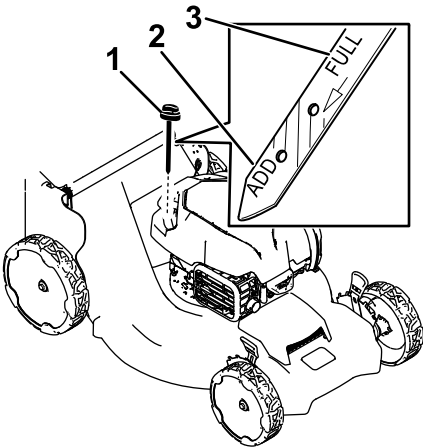

Figure 22
- 3. Remove the dipstick by rotating the cap counterclockwise and pulling it out (Figure 22).
- 4. Tip the machine onto its side (so that the air filter is up) to drain the used oil from the oil-fill tube (Figure 22).